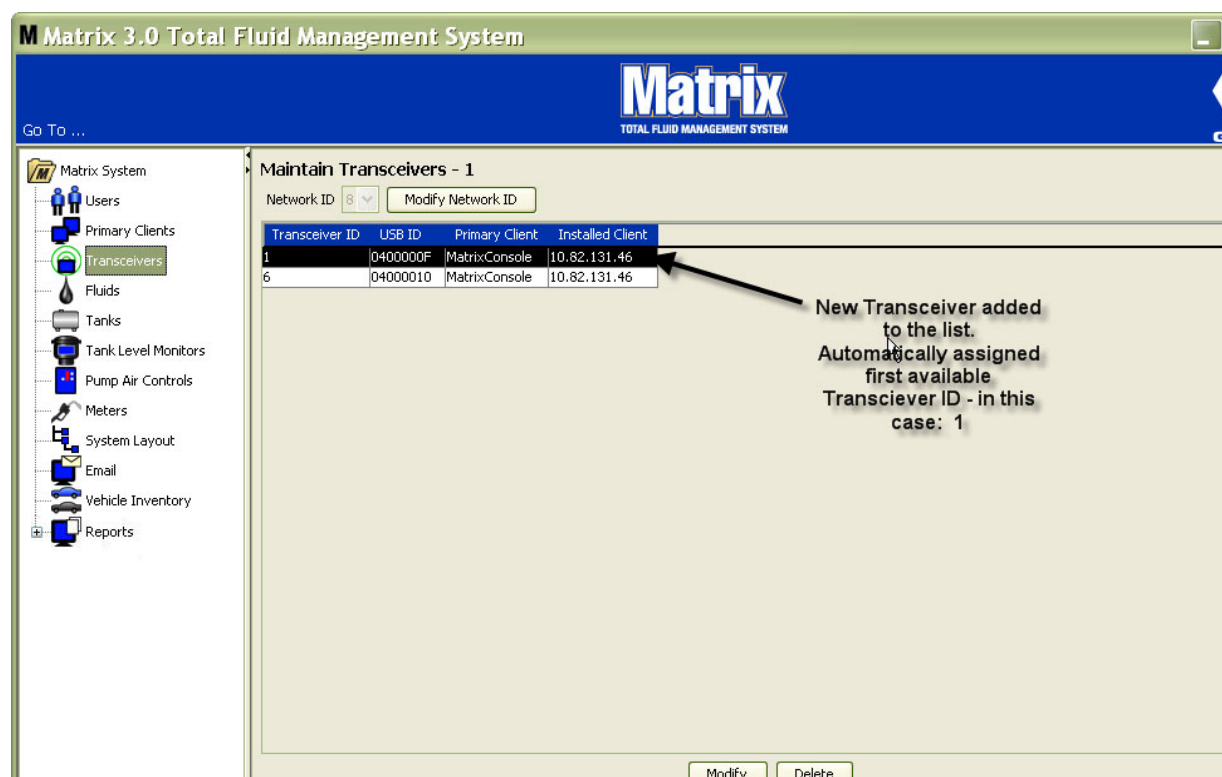

FIG. 86
1. When a transceiver is plugged into the PC USB port it automatically is added to the top of the list and assigned the first available Transceiver ID number as shown in FIG. 86. Unplugging or powering down the transceiver will not cause transceiver to disappear from the list of transceivers, although either operation will cause communication over that device to stop immediately.